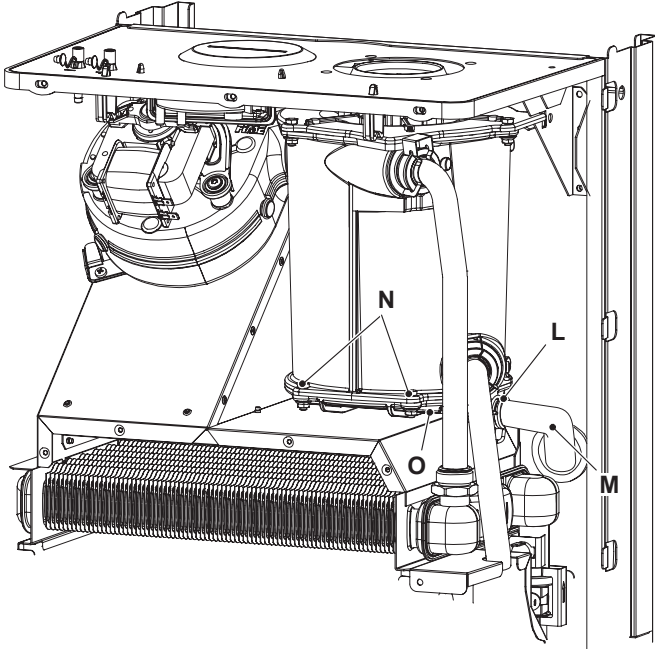

Figure 6.3
- 1 Using pliers, remove the spring L moving it to wards right and disconnect the rubber pipe M (Figure 6.3).
- 2 Unscrewing the screws N (Figure 6.3).
- 3 Remove the condensing heat exchange lid O (Figure 6.3) moving towards the front of the boiler.